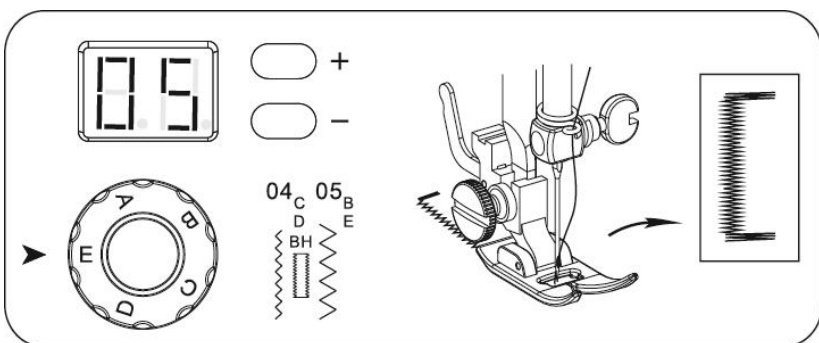

Fig.21
- 4) Select stitch 05 and turn the stitch density dial to the position E, turn on and sew 5-6 stitches by foot pedal, then stop. (Fig.21)